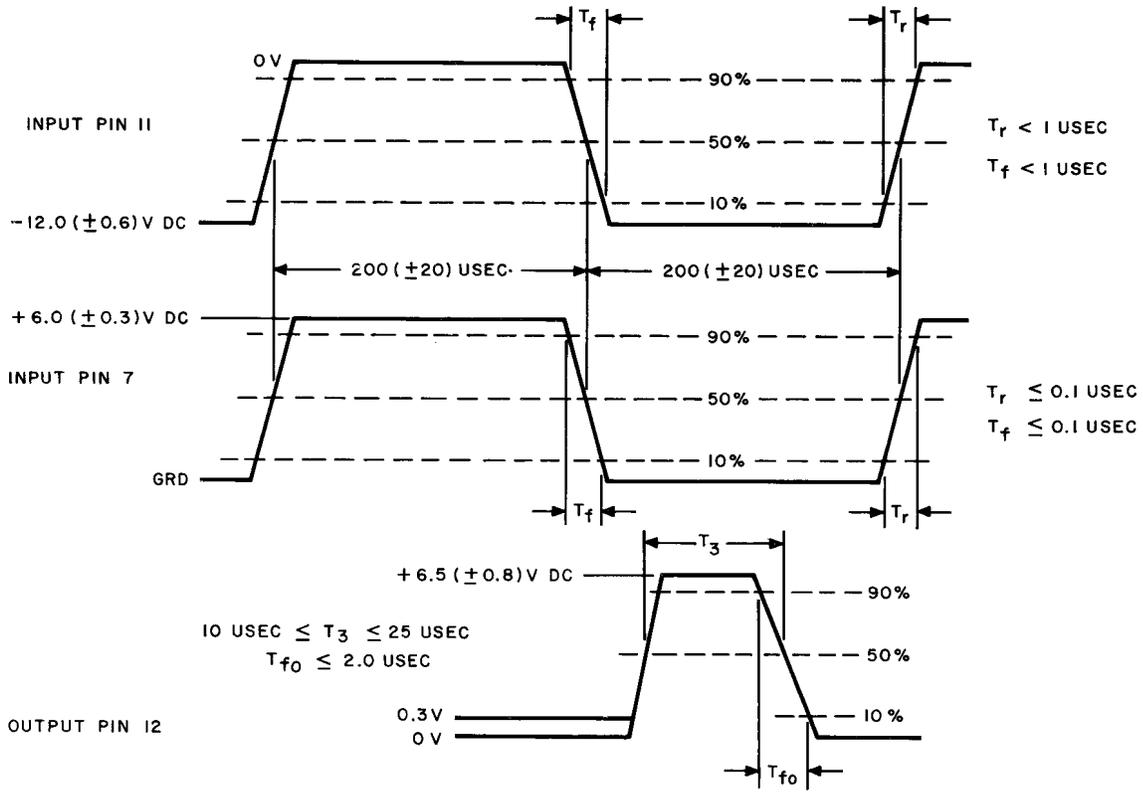

Fig. 60A — Remote Test Circuit Pack Test
- (6) The input waveforms at terminals 7 and 11 shall be as specified in Fig. 60A. The relative phase of the input waveforms is immaterial.
- (7) The voltage at test point 5, when measured with the voltmeter, should be +10.0 (± 1.5) Vdc.
- (8) Set the scope EXT SYNC TRIGGER selector to the (-) negative position.
- (9) The output waveform shall be as specified in Fig. 60A.